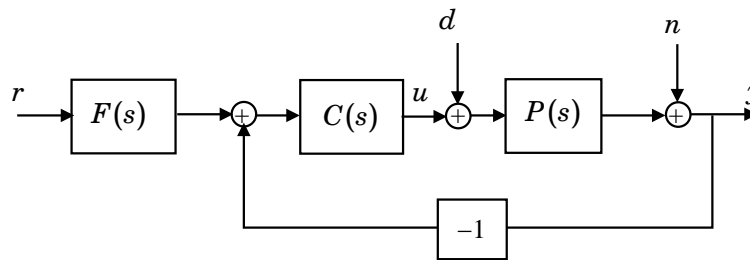

Figure 4.1 Our control loop with reference signal r , load disturbance d , measurement noise n and output y .
The structure of the control system is given in Figure 4.1. As you may have already heard, several transfer functions should be studied in a design. Besides a nice step response from r to y , also a fast recovery from, e.g., load disturbances, d is required. Furthermore, it is important to see how the control signal responds to the different input signals.
4.6 (*) Consider the control system in Figure 4.1, where the plant is described by